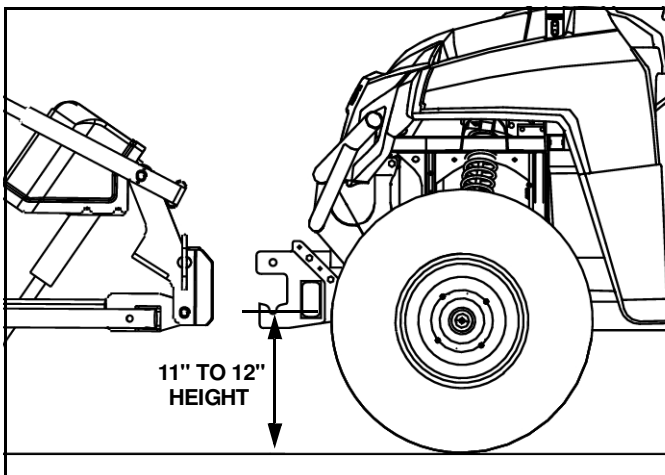

Figure 6
9. Align the UTV Mount (#1) with the front side holes in the Bottom Weldment (#2). Adjust the UTV Mount (#1) so that the center of the bottom slot is 11"-12" off of the ground (See Figure 6).